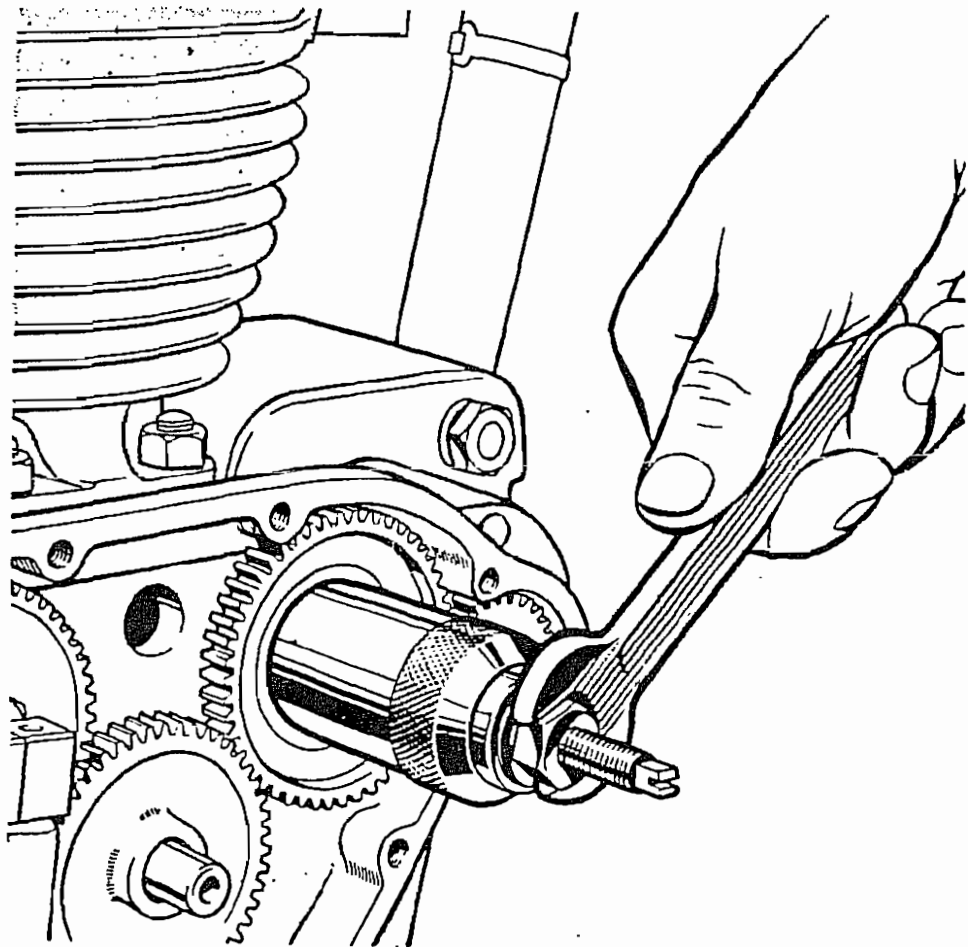

Fig. 18. REPLACING THE CAMWHEEL
**Camwheels.** To fit these, special tool Z89, Fig. 18, must be employed. First assemble the keys to the camshafts, then screw on the centre tool (B). Slide the camwheel over the tool and engage the keyway onto the key. Screw onto the camwheel thread the outer tool (C), and onto (B) the left hand nut. Screw down the nut until it contacts the outer tool, then, to prevent the camshaft turning when the nut is screwed down, hold the end of the rod (B) with a suitable tool. When the camwheel is fully located remove the tool and then fit the opposite camwheel. Do not attempt to punch the camwheels onto the shafts, as the key will be brought into contact with the shaft bushes and may cause considerable damage. If the operator cannot avail himself of the special tool, the camshafts and camwheels can be assembled before the two halves of the crankcase are fitted together. Fit the camshafts to the timing side crankshaft half and then support them, when the camwheels can be aligned to the keys and punched into position.
**Fitting the Camwheel.** First fit the intermediate wheel. It is now necessary to fit the camwheel to the shaft without disturbing it or the intermediate wheel. This is made possible by aligning one of the three keyways with the camshaft key and the teeth in line with the teeth on the intermediate wheel. When aligned press on the camwheel (See Fig. 18).